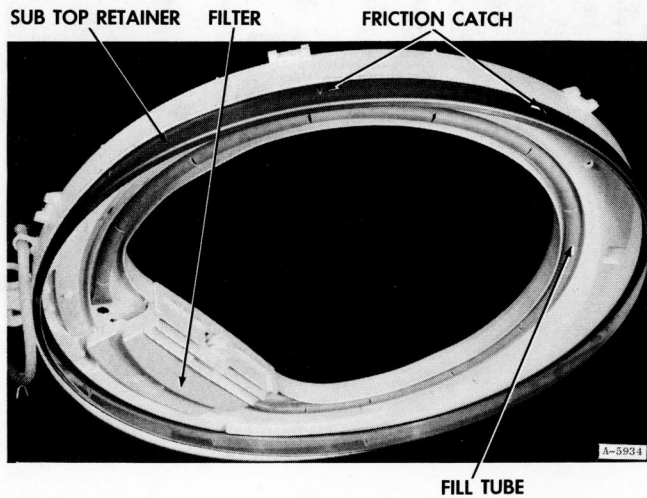

Figure 64
8. Transfer sub top Retainer to new sub top, Figure 64.